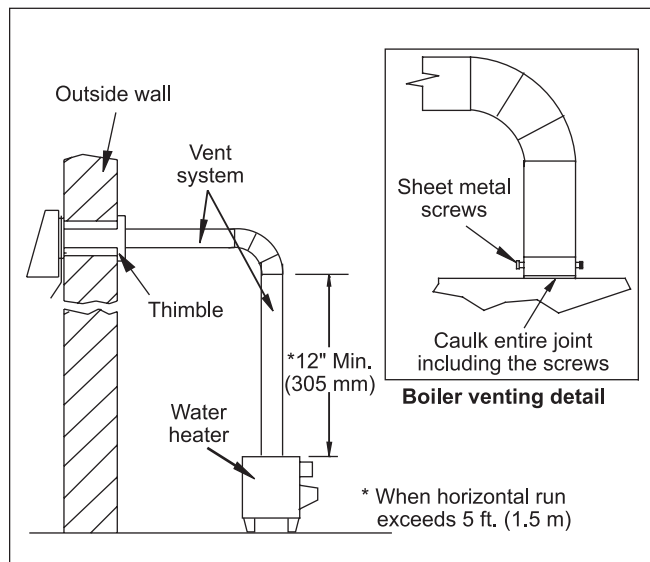

Figure 8. Horizontal Venting.
The water heater vent collar must be fastened to vent pipe of the same diameter, with rustproof metal screws no longer than 1/2" (13 mm) and sealed with high temperature – 500°F (260°C) – silicone sealant. For larger diameter vent pipes, use a sealed reducer fastened directly to the water heater collar and seal all joints as indicated in Figure 8. Allow the sealant to cure for 24 hours before operating the water heater.
- Attach a vertical pipe at least 12 inches (305 mm) high to the water heater outlet before the horizontal run if run exceeds 5 feet (1.5m) (see Figure 8).